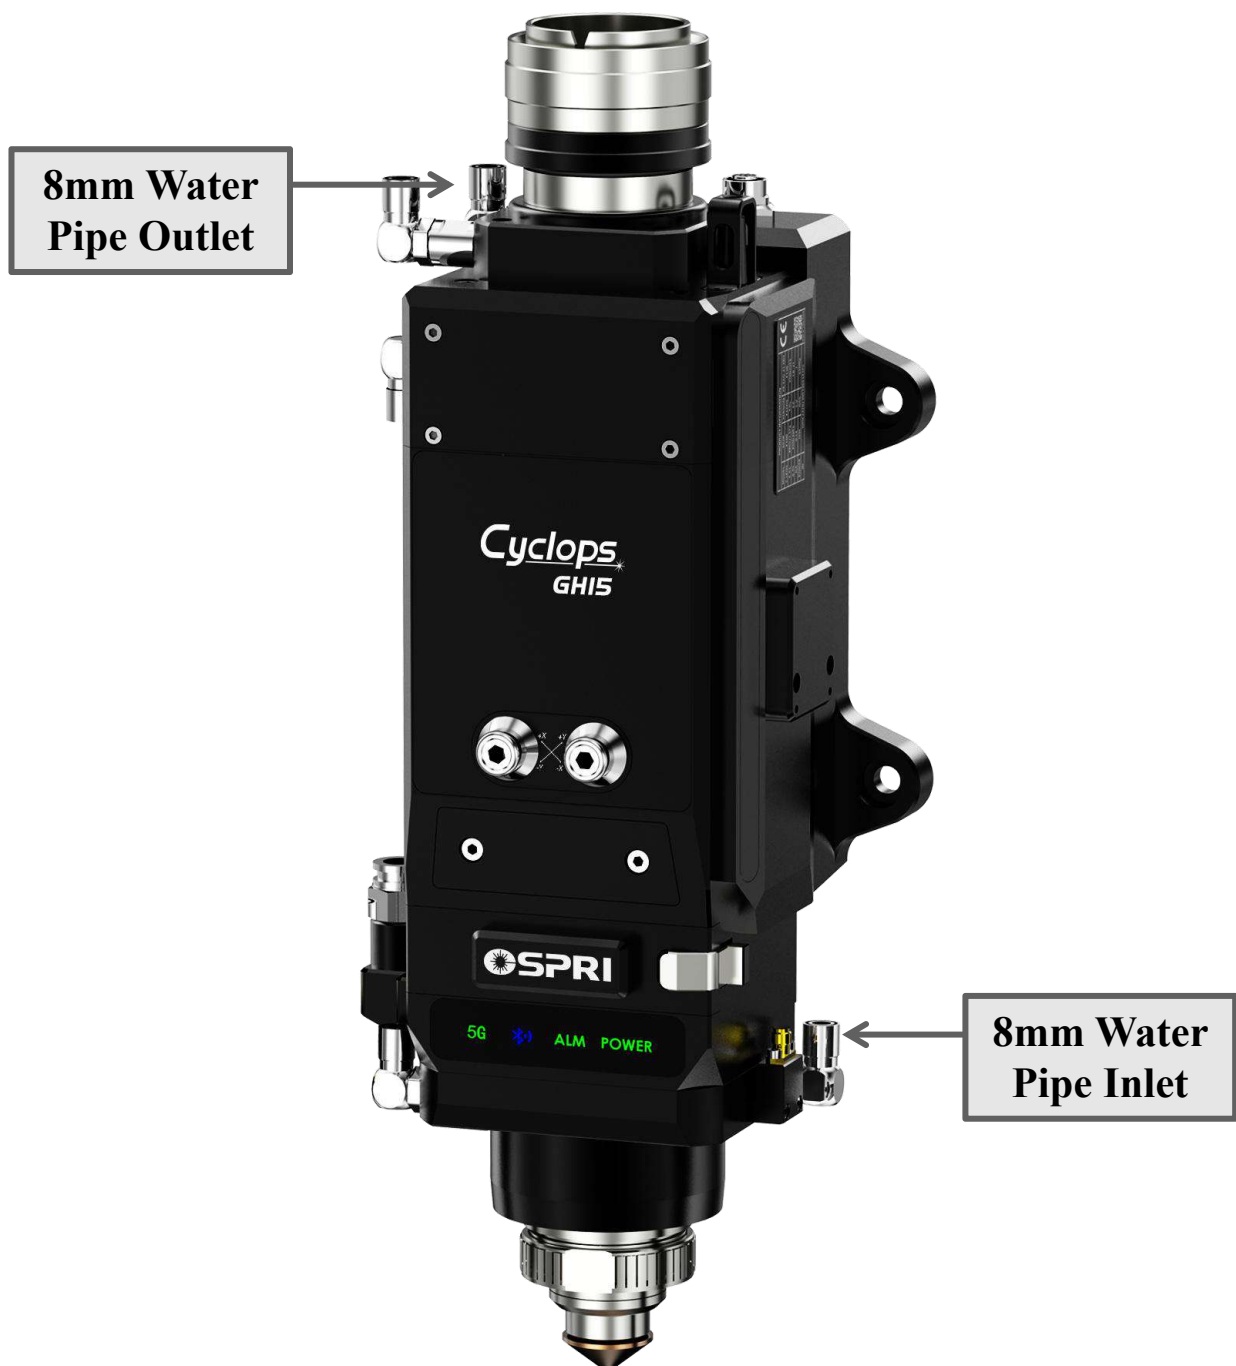

Figure 1.3
- ① Used for cutting head cooling, one inlet and one outlet for the cooling pipeline, as shown in Figure 1.3.